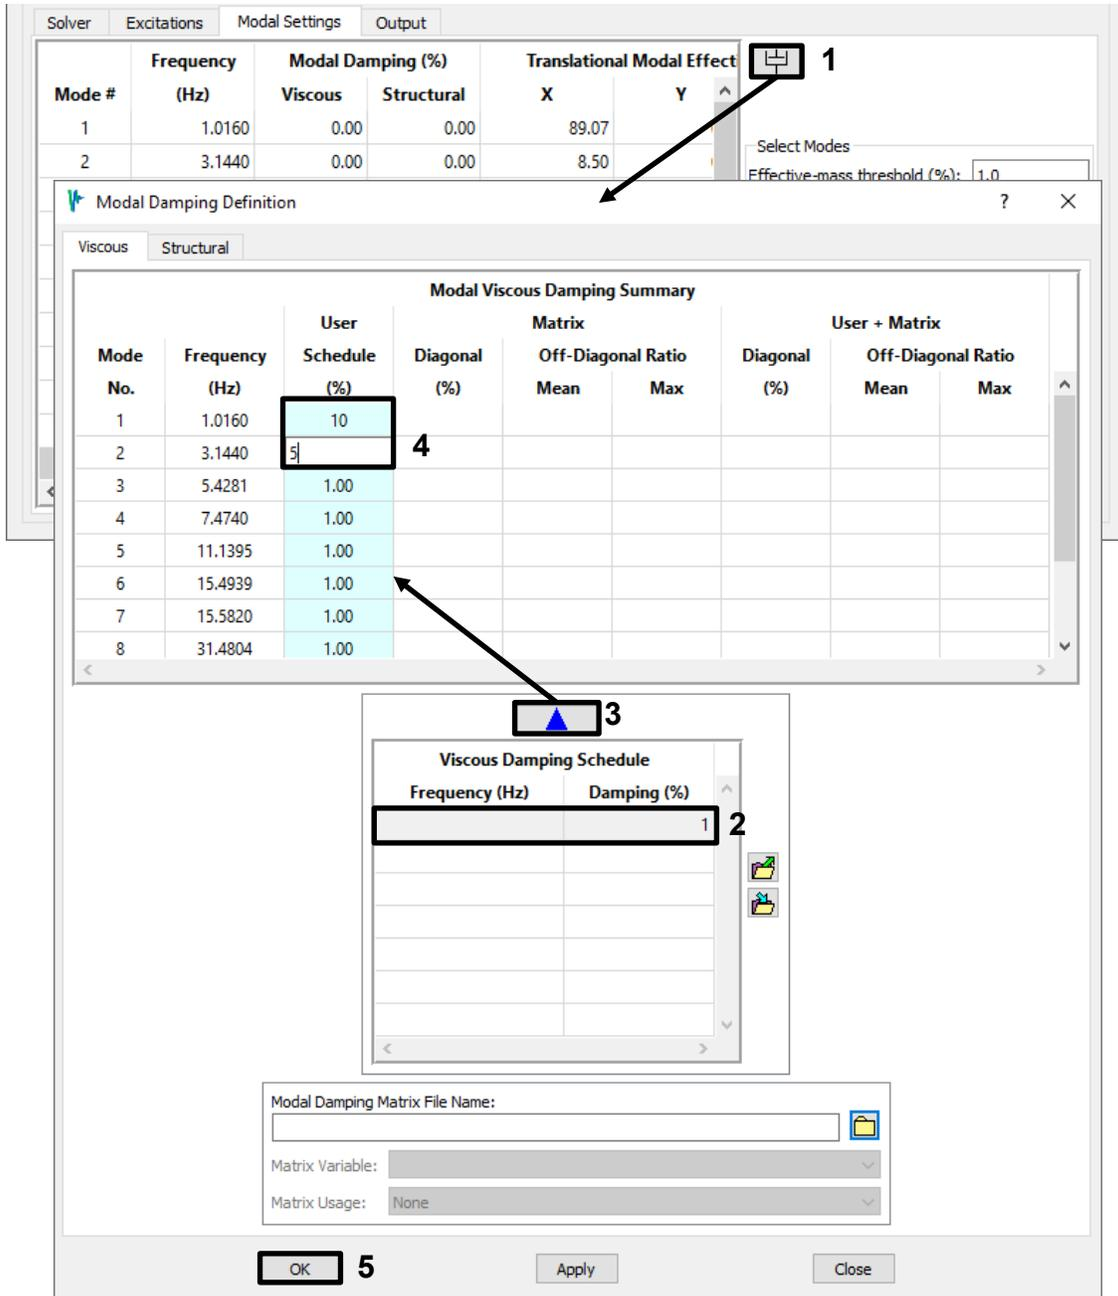

Figure 4-116. Set the damping of the model to 10% for mode 1, 5% for mode 2, and 1% elsewhere.
- Go to the *Modal Settings* tab and open the damping dialog. Use the damping schedule to set the viscous damping to 1% for all modes, then key in damping of 10% for mode 1 and 5% for mode 2, as in Figure 4-116.